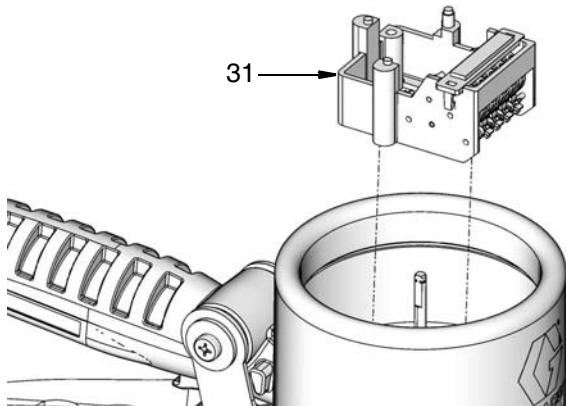

FIG. 19
7. Remove the entire counter assembly (31) (FIG. 19).